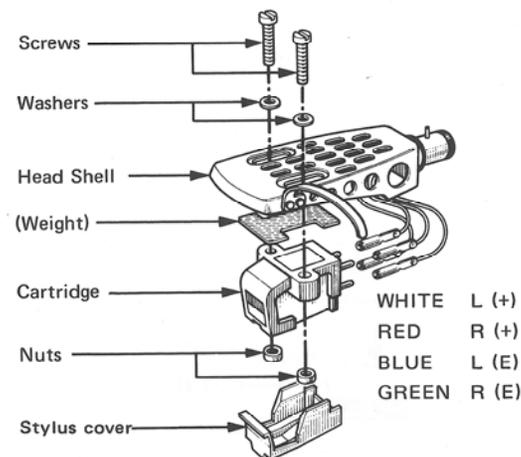

Fig. 7 Attaching the Cartridge
1. According to Fig. 7 mount the cartridge of your choice but keep the two screws slightly loose so that the cartridge can be shifted forward and backward as desired. Use appropriate length screws.